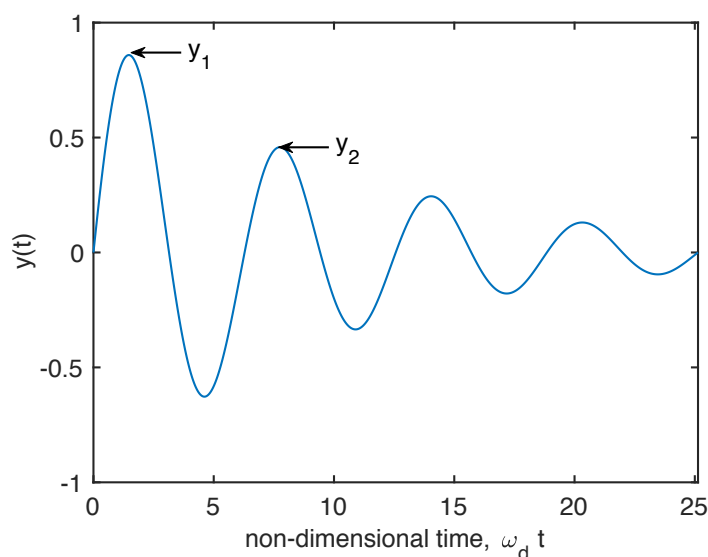

Figure 3 – An example of “ringing” behavior for a damped harmonic oscillator.
Your data should look similar to Fig. 3. It should be a nice sinusoid with an exponential decay envelope, just as you would expect for the ringing of a damped harmonic oscillator. If your data is noisy, try using the smooth() function in Matlab to filter out the noise. For your lab reports, you will need to quantitatively compare your data with Eq. (1). To do this, we will use the data to calculate λ , ω_d , and ϕ and estimate A .